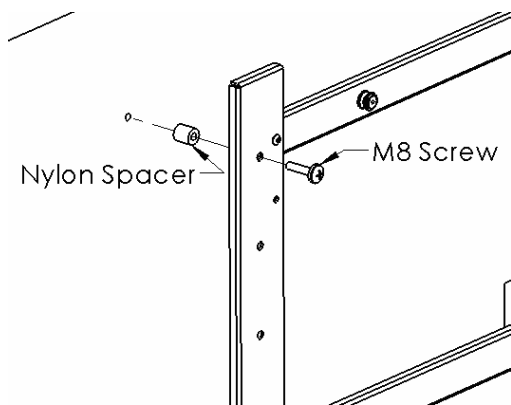
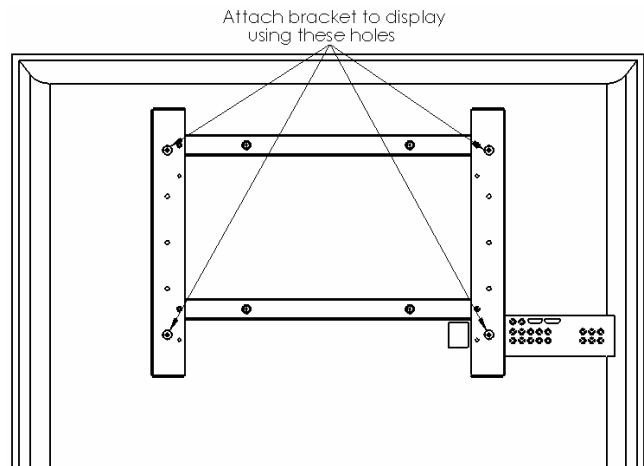
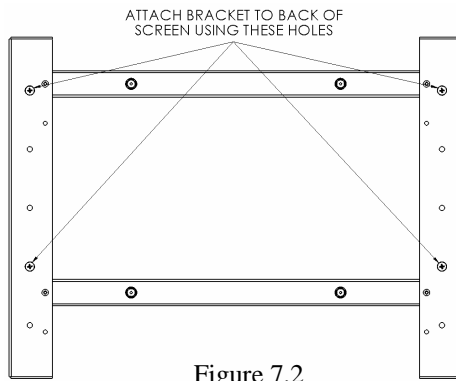

Figure 6
Figure 7.1
Figure 7.2
- Place Nylon spacers over mounting holes on back of screen and attach the mounting brackets to the display using M8 screws. Use the set of hole appropriate to your screen (see Figure 6, Figure 7.1 & 7.2). For 700 x 400 patterns see Figure 7.1 and for 700 x 300 patterns see Figure 7.2.